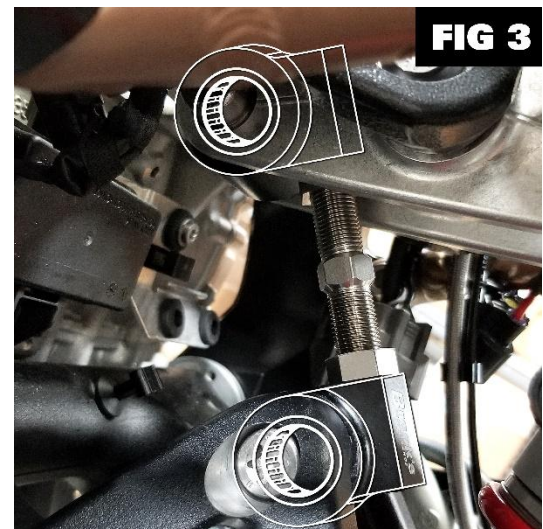

FIG 3
15. Install the Fully Adjustable Window Link oriented as shown. **(FIG 3)**
19. Lengthen center-to-center of link to raise seat height. **(FIG 3)**